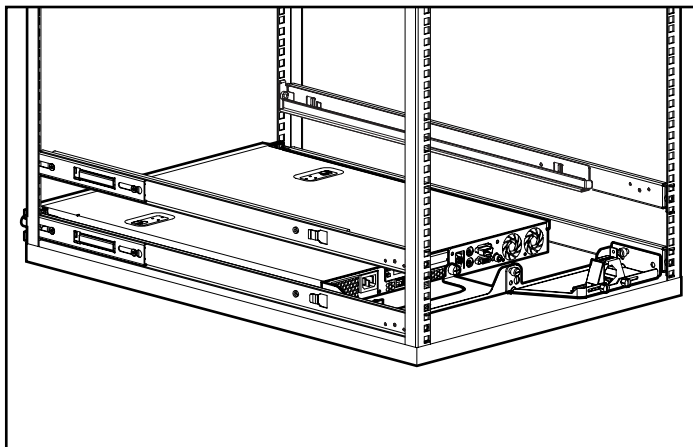

Figure 4-5. Fixed rack rails installed in the rack, ready for server installation (rear view)
8. Repeat steps 2 through 7 for the second fixed rack rail. Figure 4-5 shows a completed installation of the fixed rack rails.